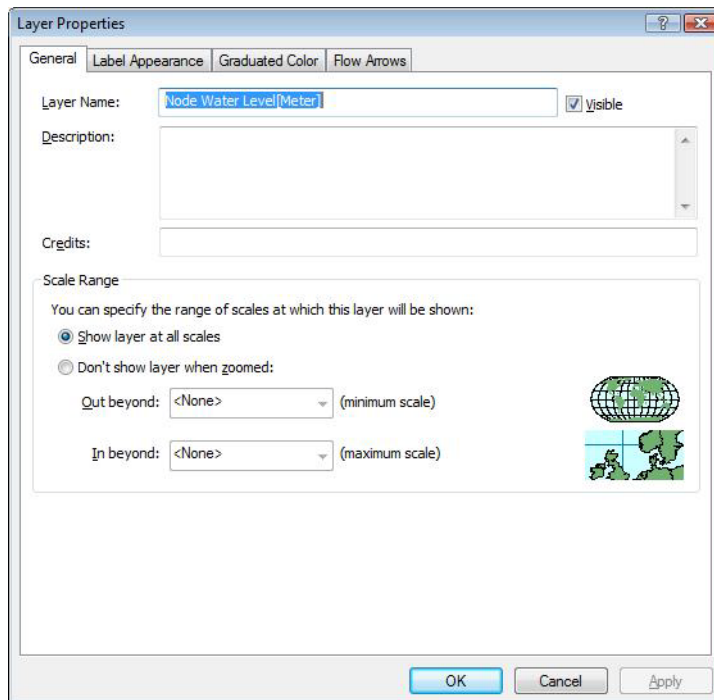

Figure 23.10 Layer properties dialog
- Right-click on the layer that you wish to display differently and choose “Properties“. The dialog seen in Figure 23.10 is then displayed.
The 'General' tabpage, see Figure 23.10, allows you to change the scale range for which the layer will be displayed.